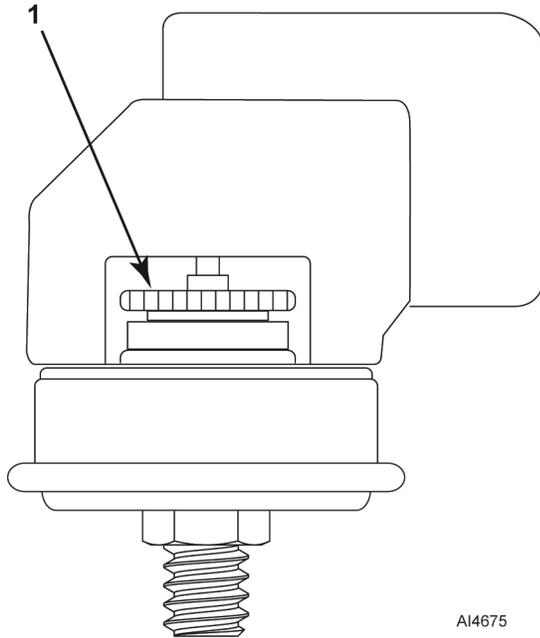

Fig. 65
3. Turn adjustment wheel (1, Fig. 65) to bring cut-out pressure into tolerance.